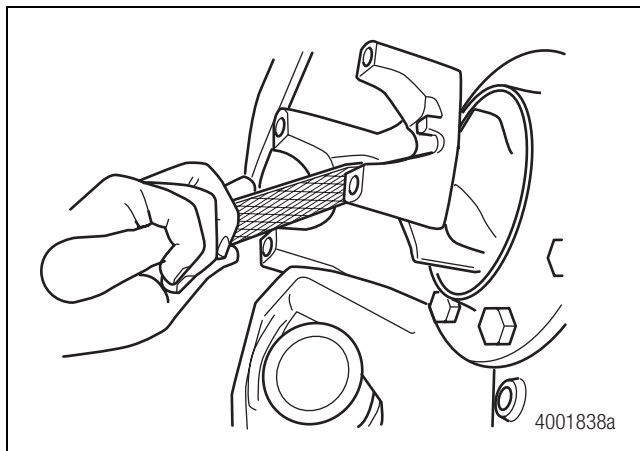

Figure 3.2
4. Inspect all end yoke cross hole surfaces and bolt hole threads for damage. Remove raised metal or fretting with a fine-tooth file or emery cloth. Figure 3.2.